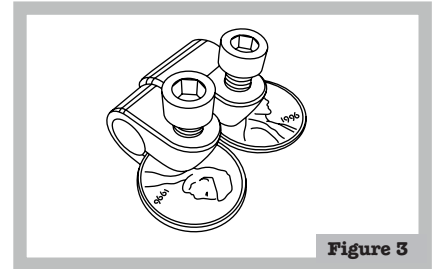

Figure 3
3. If you have difficulty installing the clamps, you can (1) spread open the clamp slightly with the blade of a screwdriver or (2) use the “penny trick”: (a) thread any of the M5 bolts into the threaded holes of the clamp (b) insert thin coins partially into the clamp slot (c) slowly tighten the bolts against the coins until the clamp spreads enough to allow its installation (Figure 3).